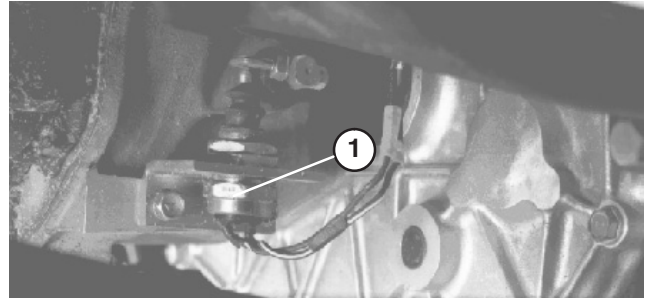

Figure 59
7. Recheck clutch safety switch adjustment (Fig. 59). Engine must not crank unless clutch pedal is $1.25'' \pm .12''$ from floor. If an adjustment is required, loosen switch jam nuts and adjust up or down.